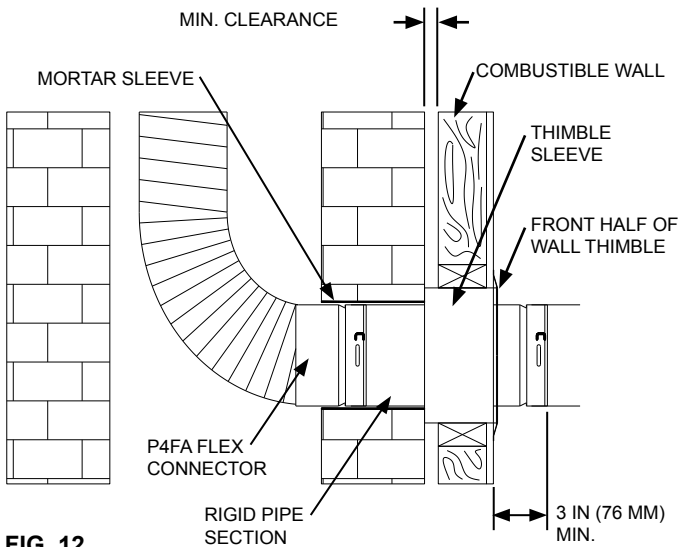

FIG. 12
Step 3: Insert liner into masonry chimney as described in these instructions. Attach the **P4FA** Flex Connector to the bottom end of liner and secure with three (3) #8 x 1/4" (M4 x 6 mm) sheet metal screws.
Step 4: After liner is installed, attach a section of rigid pipe to flex connector (**be sure flow arrow is pointed in correct direction**) and secure with twist lock (See FIG. 12).
Step 5: The thimble sleeve will need to extend through the combustable wall and be flush with masonry. Pull the sleeve extension out to required length and secure extension to sleeve with screws. Slide wall thimble over rigid pipe and insert into combustable wall opening. Secure thimble to wall with fasteners. **Rigid pipe must extend out past combustable wall a minimum of 3 inches (76 mm) as shown in FIG. 12.**